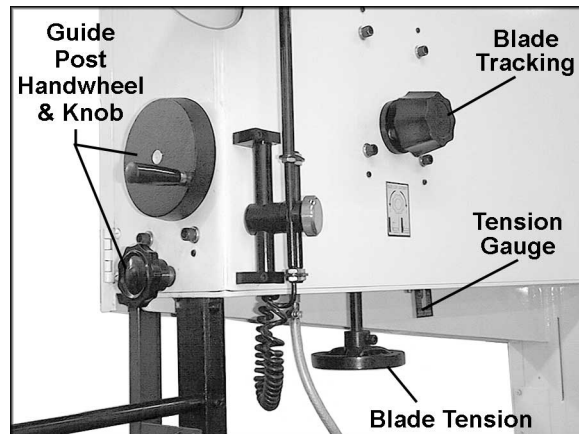
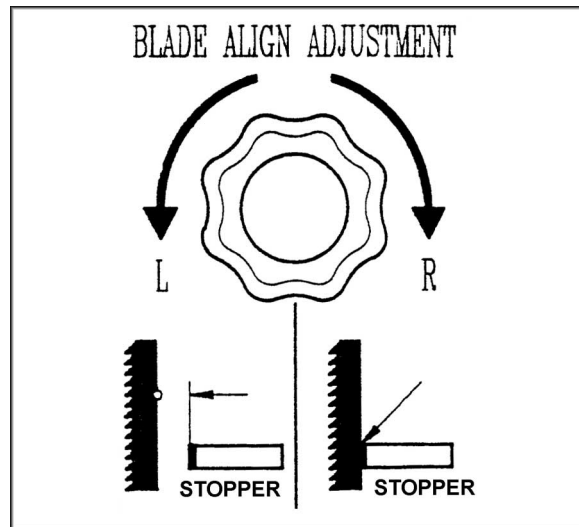

Figure 6
Figure 7
4. Loosen tension on the blade by turning the tension handwheel (Figure 6) to the left.
Rotate blade tension handwheel to the right to increase tension on the blade, to the left to decrease tension on the blade. Initially, set the blade tension to correspond to the width of your blade, as indicated on the tension gauge (Figure 6). As you become familiar with the saw, you may find it necessary to change the blade tension from the initial setting, depending on the width of the blade as well as the material being worked.
- If the blade does not track properly, rotate the blade tracking knob (Figure 6) clockwise to move the blade toward the front of the wheel (as viewed from the front of the saw) or counterclockwise to move the blade toward the rear of the wheel. NOTE: This will also move the blade away from or toward the stoppers on the blade guide assemblies, as shown in Figure 7.
For effective cutting and for safety's sake, there should be a minimum amount of space between the top of the workpiece and the bottom of the blade guides. Loosen the locking knob (see Figure 6) and rotate the handwheel (Figure 6) to raise or lower the guide post so that the guides clear the workpiece by about 3/16".